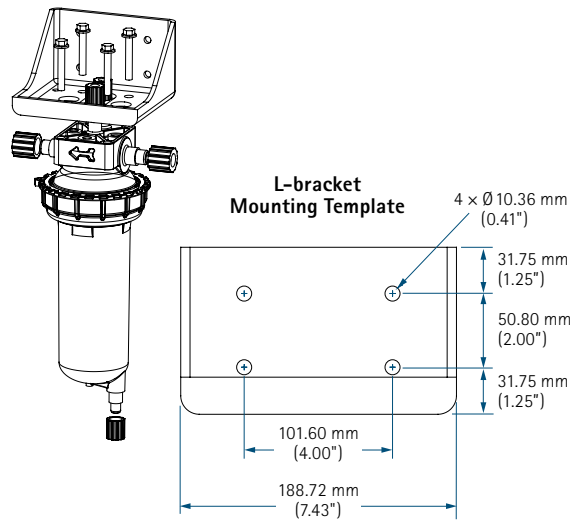

Figure 6.
1. Use screws and nuts to secure the housing head to the L-bracket (part no. YY66BRACK) (Figure 6). The Chemlock PP housing can be installed either bowl **UP** or bowl **DOWN**.